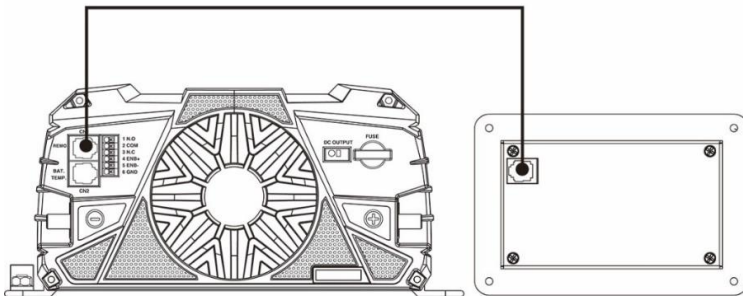

Figure 2. Connect the RJ11 cable
- Step 4.** Connect the supplied RJ11 cable to the back of the PowerCombi Remote Control and then connect to the remote port at the DC side of the Inverter/Charger. See Figure 2.